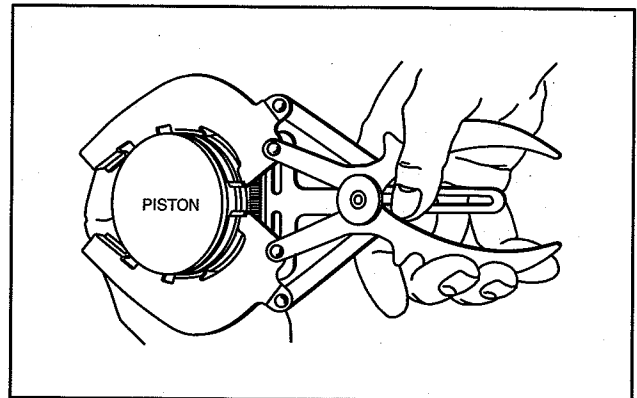

Fig. 1 - Removing Piston Rings
1. Remove compression rings using ring expander, Tool #19340, Fig. 1.